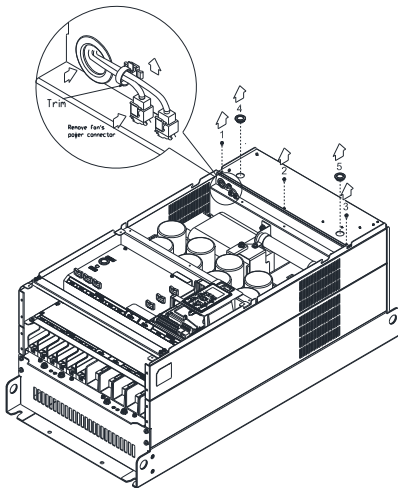

Figure 3
4. Loosen screw 1, 2, 3 and remove the protective ring (as shown in figure 3) Screw torque: 14–16 kg-cm / [12.2–13.9 lb-in.] / [1.4–1.6 Nm]